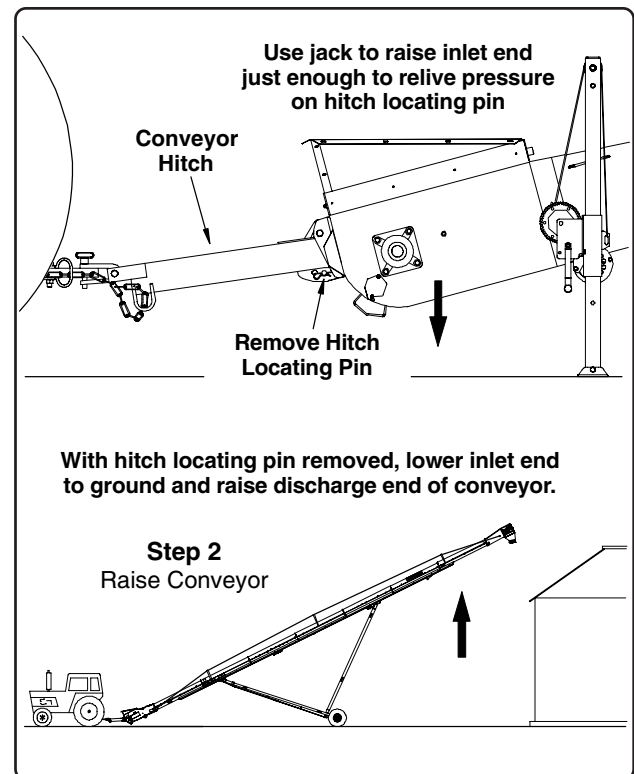

Fig. 6
1. Raise the inlet end of the conveyor with the hitch jack to relieve pressure on the hitch locating pin (See Fig. 6). Remove the locating pin and using the jack, lower the inlet end to the ground.